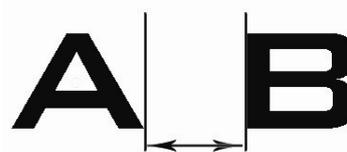

Fig. 6.1.09
**Edge:** Calculate the pitch based on the edge of the character, see Fig.6.1.09.